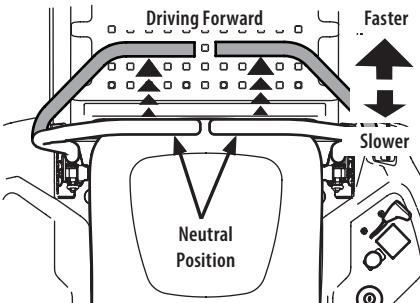

Figure 22
- Slowly and evenly move both lapbar drive control levers forward. The tractor will start to move forward (Figure 22).